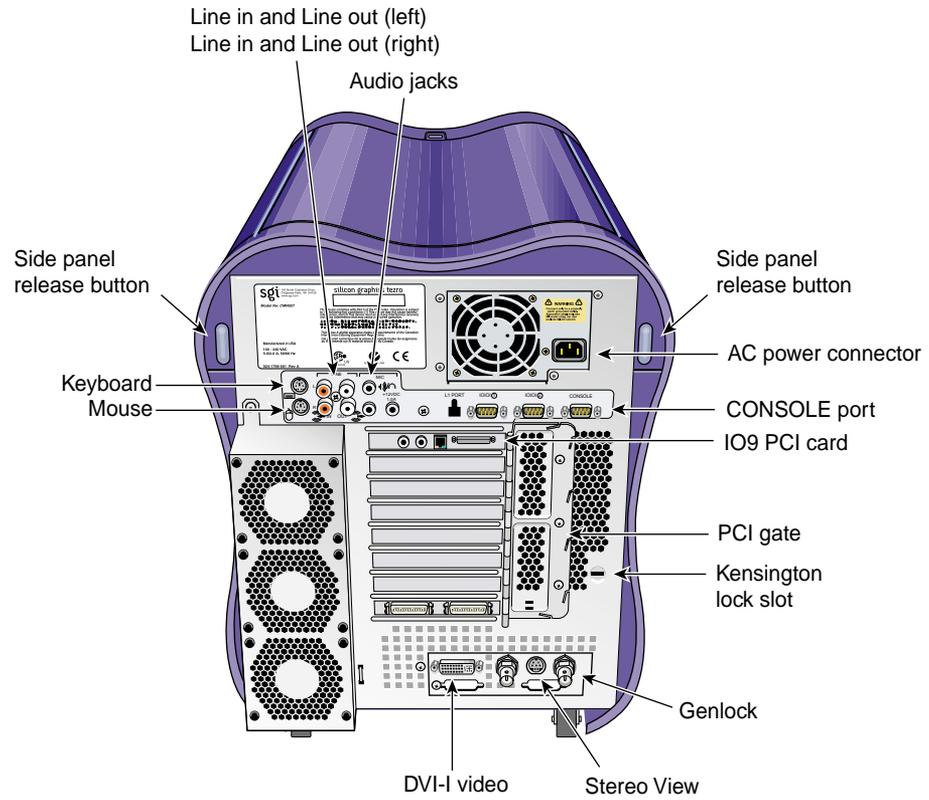

Figure 1-4 Rear View of the Workstation
- Figure 1-4, which shows the rear view of the workstation.